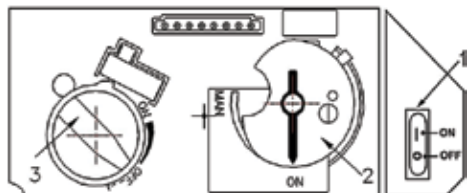
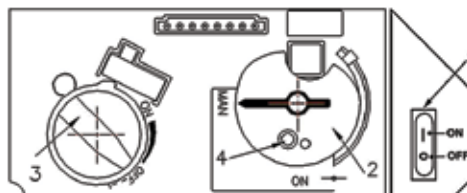
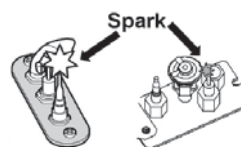

Fig 1
Fig 2
Fig 3
2. SET ON/OFF SWITCH (1) TO "OFF" POSITION.
- Wait five (5) minutes to clear out any gas, then smell for gas, including near the floor. If you smell gas, STOP! Follow "B" in the safety information above on this label. If you don't smell gas, go to the next step.
3. AUTOMATIC IGNITION (fig. 1): Locate the pilot (fig. 3.) inside of firebox at Left Hand side.
- ON/OFF switch (1) in ON position, MAN-knob (2) in ON position; set Flame Adjustment knob (3) to lowest setting (∩);
- When the pilot is lit, the Flame Adjustment knob (3) will automatically rotate to the highest setting.
4. MANUAL IGNITION (fig. 2): With the window off, locate the pilot (fig. 3)
- ON/OFF switch (1) in ON position, MAN-knob (2) in MAN position;
- Set Flame Adjustment knob (3) to the lowest setting (∩);
- Push down the metallic core (4) with a pen or similar instrument; this will establish the pilot gas flow;
- Light gas at the pilot (5) with a match;
- Continue holding down metal core (4) for about 10 seconds; after release, pilot should remain lit;
- If the pilot will not stay lit after several tries, turn the gas control knob (3) to "OFF" (∩) and call your local service technician or gas supplier.